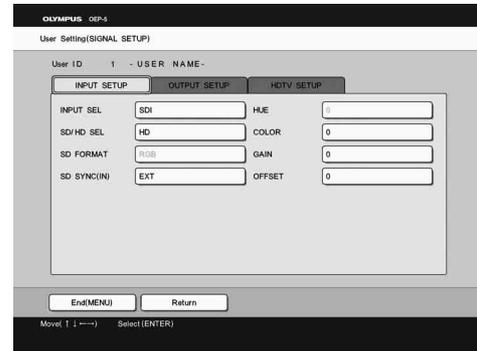

Figure 5.10
- 3 Press “◀” or “▶” to display the “INPUT SETUP” menu (see Figure 5.10).